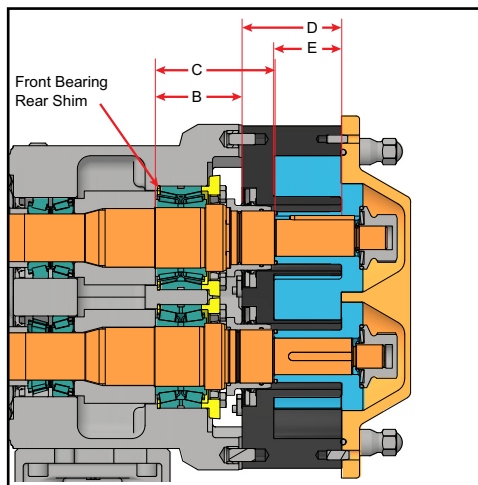

Figure 59 - Measure B, C, D and E
- If it is necessary to calculate the required shims for replacement shafts, bearings or both, refer to Figure 59; carry measurements and calculations to three decimal places (e.g., .059).
- Measure "B" in the gear case and "C" on the shaft (Figure 59).
- Measure "D" and "E" on the body (Figure 59).
(Call-outs for Figure 59)